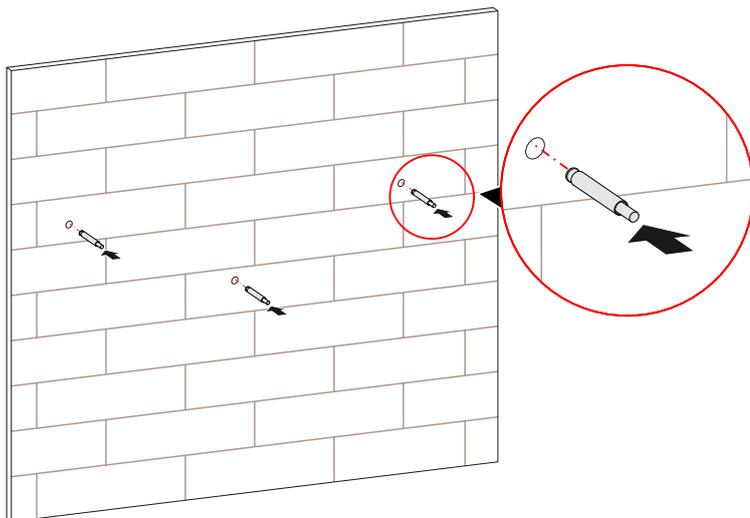

Figure3-11 Install expansion bolts
- Step 3 Install the equipped three expansion bolts M6*60 into the holes, as shown in Figure3-11.